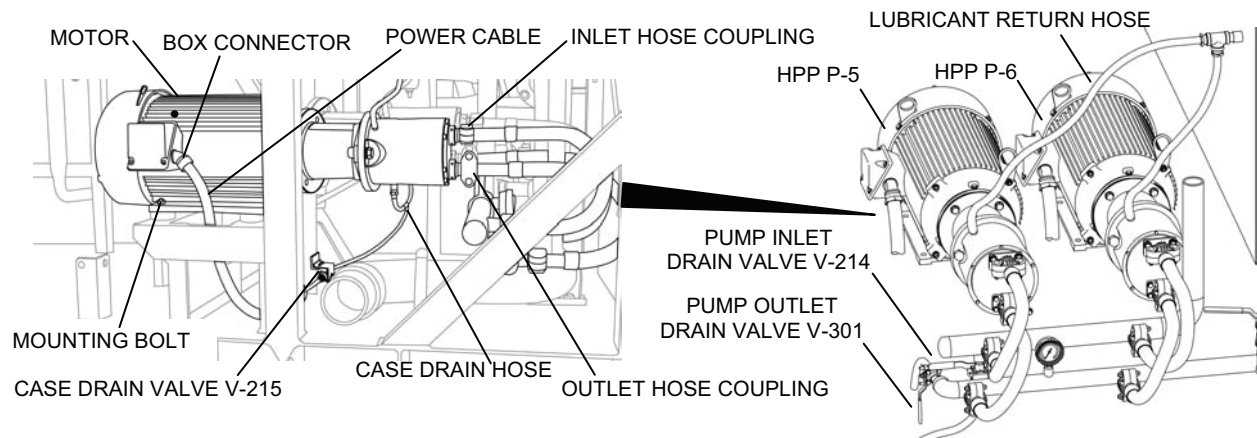

Figure 1. Metal-Body High-Pressure Pump/Motor Assembly Removal.
2. Drain the high-pressure pumps and the piping to the pumps as follows (see Figure 1):
3. Remove the metal-body high-pressure pump assembly as follows (see Figure 1):
4. Install the metal-body high-pressure pump assembly in the TWPS as follows (see Figure 1):